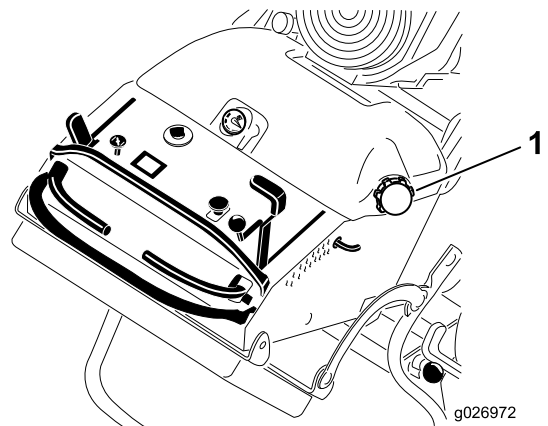

Figure 51
6. Using the syphon pump, drain the fuel into a clean gas can (Figure 51).